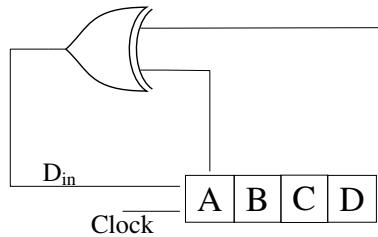

Fig. 5.15
15. A 4-bit shift register circuit configured for right-shift operation, i.e. $D_{in} \rightarrow A, A \rightarrow B, B \rightarrow C, C \rightarrow D$, is shown in Fig. 5.15. If the present state of the shift register is $ABCD = 1101$, the number of clock cycles required to reach the state $ABCD = 1111$ is _____. (GATE EC 2017)